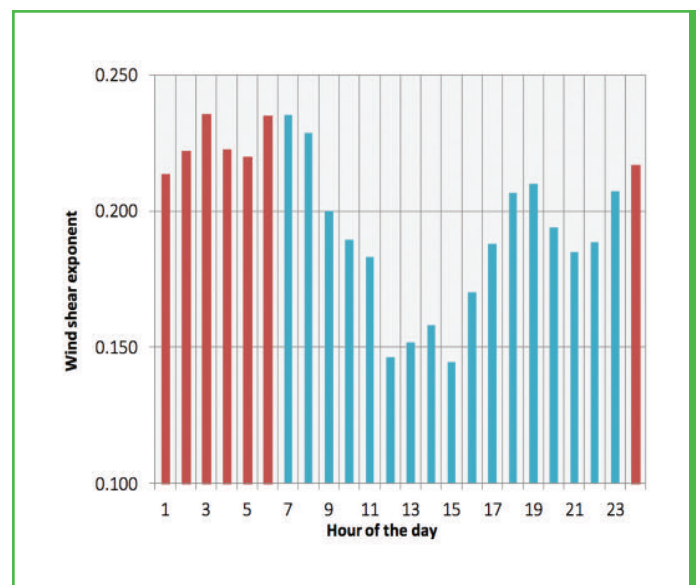

Figure 5 – Typical winter diurnal wind shear variation (with night-time highlighted in red)
The third main area of wind shear variation is time of day. In the context of the simplified 35dB(A) noise condition, it is important to recognise that wind shear is highest at night, as illustrated in figure 5, which shows a typical winter time diurnal wind shear profile.